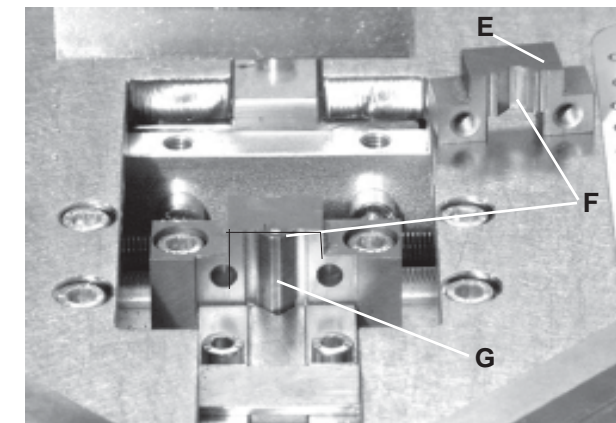
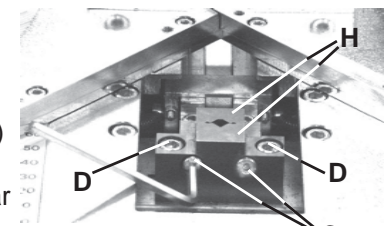

Figure 14
Figure 13
2. If glue accumulates on the **Hammer Block (H)**, (Figure 13), wipe it off before it dries, otherwise, it will have to be scraped off or removed with the solvent recommended by the glue manufacturer. Be sure glue does not dry on the **Upper Clamp Pads** because it will damage the top of a frame.
- b. Remove two screws (**C**). **DO NOT LOOSEN SCREWS (D)**. (Figure13)
- c. Figure 14 is viewed from the rear. Remove the rear half of the **Hammer Block (E)** and wipe the hammer path (**F**) clean.
- d. Depress the **Foot Pedal** to expose the **Hammer (G)** and wipe it clean.
Caution: Be sure the tops of the two halves of the **Hammer Block (H)** in Figure 13, are perfectly flush before tightening screws (**C**).